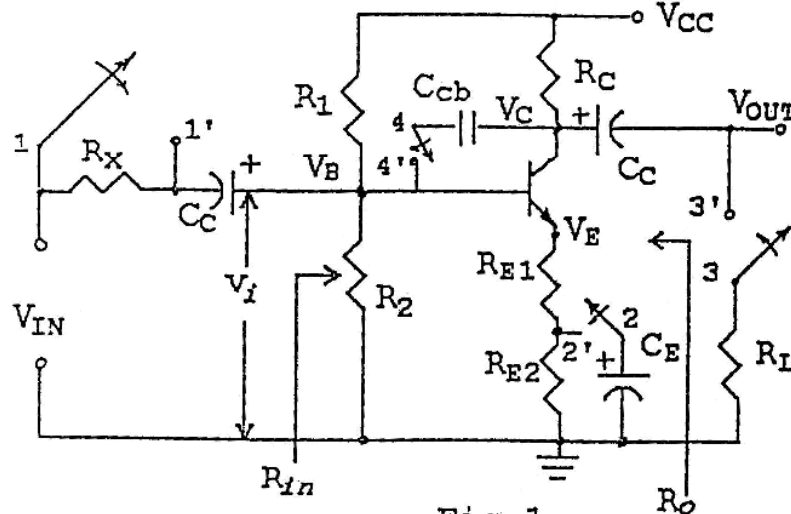

Fig.1
Trace the circuit of the CE-amplifier given in Part-1 of the board (see bottom side). Note down the component values and match them against Fig.1.
- (i) Short the resistor R_X (by connecting a jumper wire across it; i.e. by joining the points 1 – 1' in Fig.1. Bypass R_{E2} by joining points 2 – 2' (thereby connecting C_E across R_{E2}). Apply a mid-band frequency (say 4 KHz) sinusoidal voltage of about 100 mV p-p amplitude at V_{IN} and observe the output waveform on the CRO. Measure the gain. Increase the input voltage in steps and measure